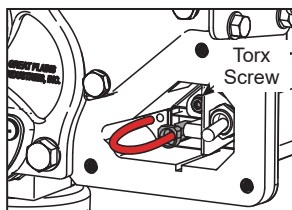

Figure 14
3. Remove the Torx head screw, then remove the switch assembly (see Figure 14).